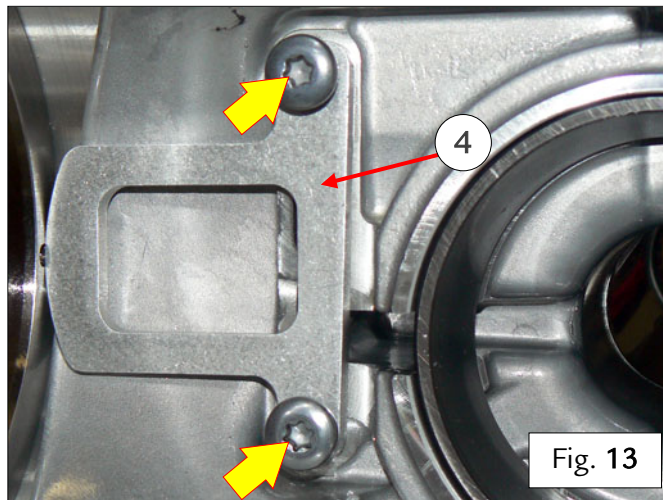

Fig. 13
- Replace the indicated plug and tighten to a torque of 25 Nm class B – Fig. 13.
- Remove the bracket (4), undoing the indicated screws – Fig. 13.